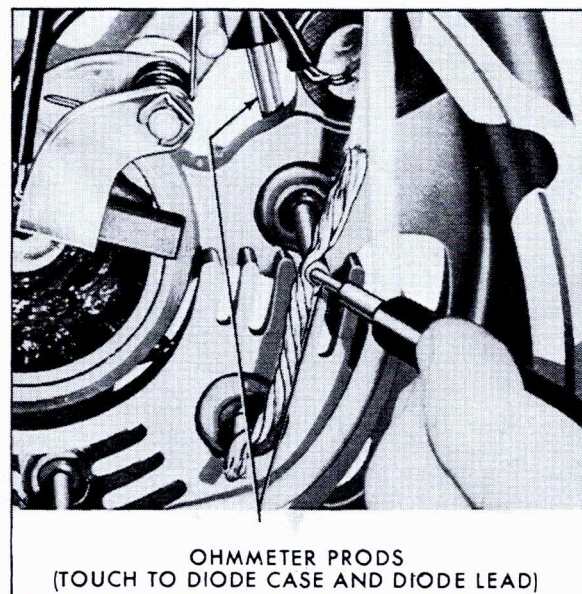
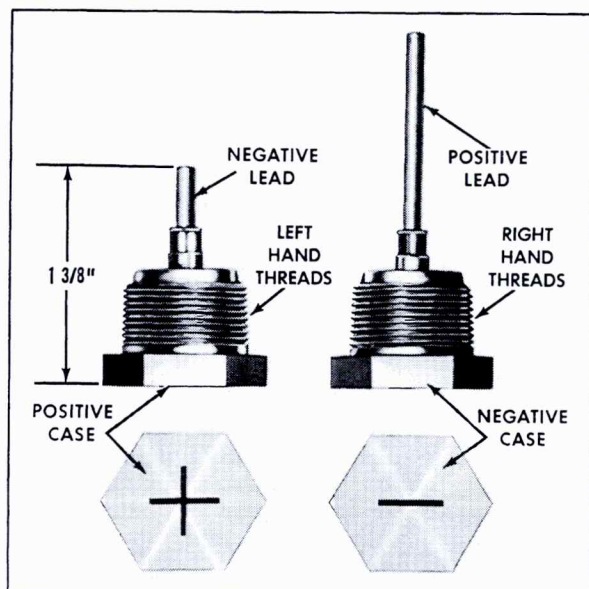

Fig. 6-42 Diode Checking
Fig. 6-44 Diode Polarity
2. Connect Test Light, J-21008, leads across each diode, first in one direction and then in the other, Fig. 6-42.
Diodes may also be checked for defects with an ohmmeter as shown in Fig. 6-42. To check each diode, connect one of the ohmmeter leads to the diode case, and the other ohmmeter lead to the diode lead, and note the ohmmeter reading. Then reverse the ohmmeter lead connections and note the reading. Ohmmeter readings may vary considerably when checking diodes, but if both readings are 300 ohms or less, the diode is defective. Also, if both readings are greater than 300 ohms, the diode is defective. A good diode will give one low and one high reading. When checking each diode, push and pull on the diode lead to catch loose connections, and use an ohmmeter with a scale on which the 300 ohm value can be accurately read.
NOTE: Replacement diodes have a long diode lead. If the diode is to be assembled into the heat sink it is necessary to cut off the diode lead to an over-all length of 1-3/8 inches, Fig. 6-44. To cut off the diode lead, hold the diode lead with ordinary pliers or vise grip pliers, and use large diagonal cutters or a hack saw, Fig. 6-42.